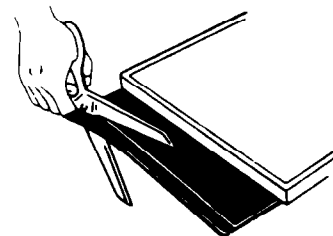

FIGURE 16
- Use a pair of scissors and cut toe plate along this line. See Figure 16.
3. Remove spacer and inside panel. See *Figure 16*.